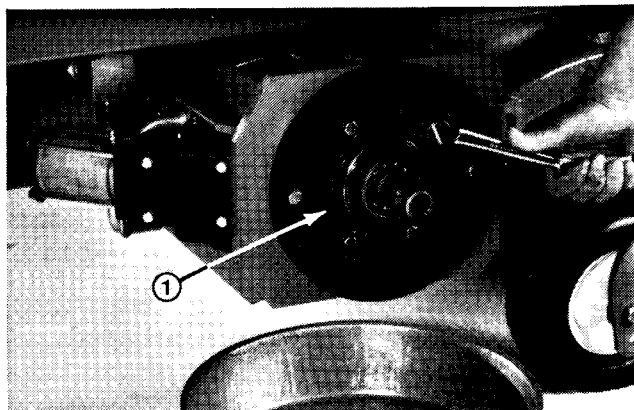

Figure 22
2. Remove four (4) capscrews and lock washers from brake housing cap (Fig. 22).